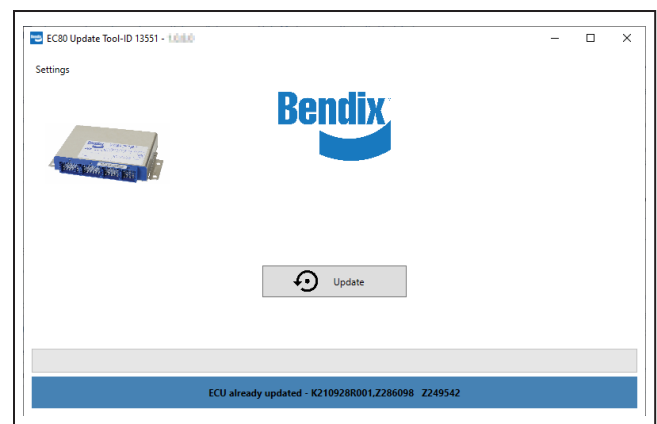

Figure 6 – Update Already Performed
7. Figure 6 shows the update has already been performed. No further action is required.